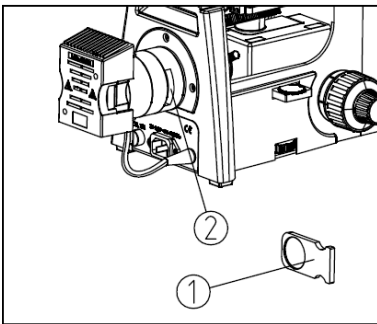

Fig.9
Insert the polarizer or filter ① into hole ② on connector between microscope stand and illuminator with its face up to hear click. (Fig.9)